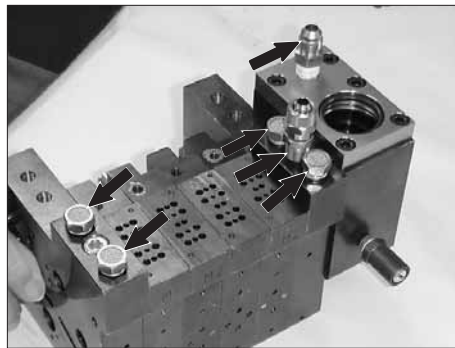

Figure 7-69 Various plugs and fittings
5. See Figure 7-69. Using PTFE tape, install the various plugs and fittings.